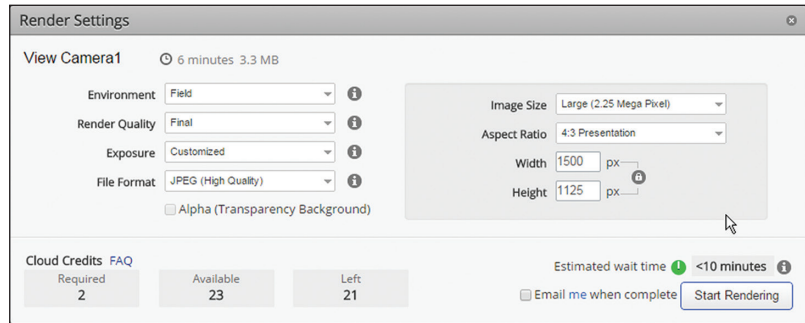

FIGURE 18.18 Rendering a final image in A360
- After the new thumbnail image appears, open the thumbnail menu and choose Re-render With New Settings to open the Render Settings dialog box in the browser. Choose Field for Environment, set Render Quality to Final, and choose Large as the Image Size. Exposure will say Customized because of what you did in the previous step; no more changes are needed. You can optionally check to be emailed when the job is complete (see Figure 18.18). Click Start Rendering; you will see a progress bar as the rendering is processed on A360.